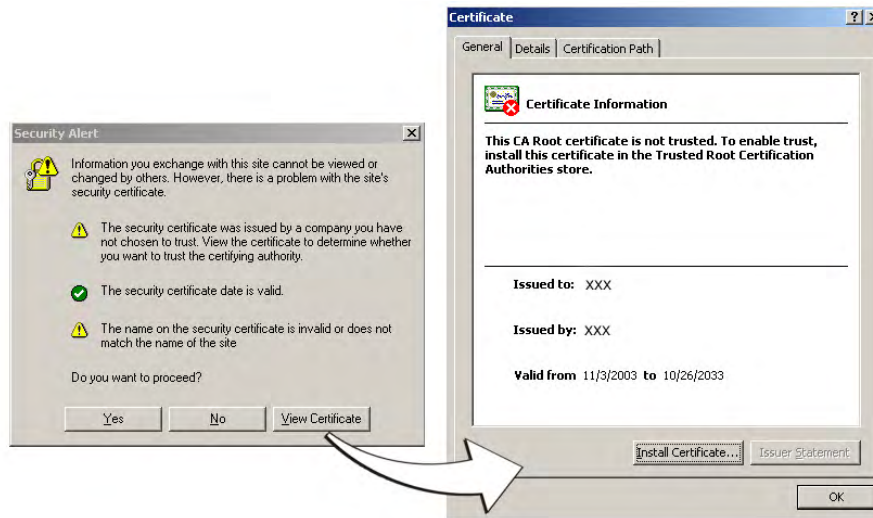

FIG. 71 Security Alert and Certificate popups
- The user is then presented with a Security Alert popup window and Certificate information (FIG. 71).
- The date period given to the certificate has expired. CA-approved certificates typically come with a 2 year window of validity. Self generate certificates come defaulted with a 30 year window of validity (FIG. 71).